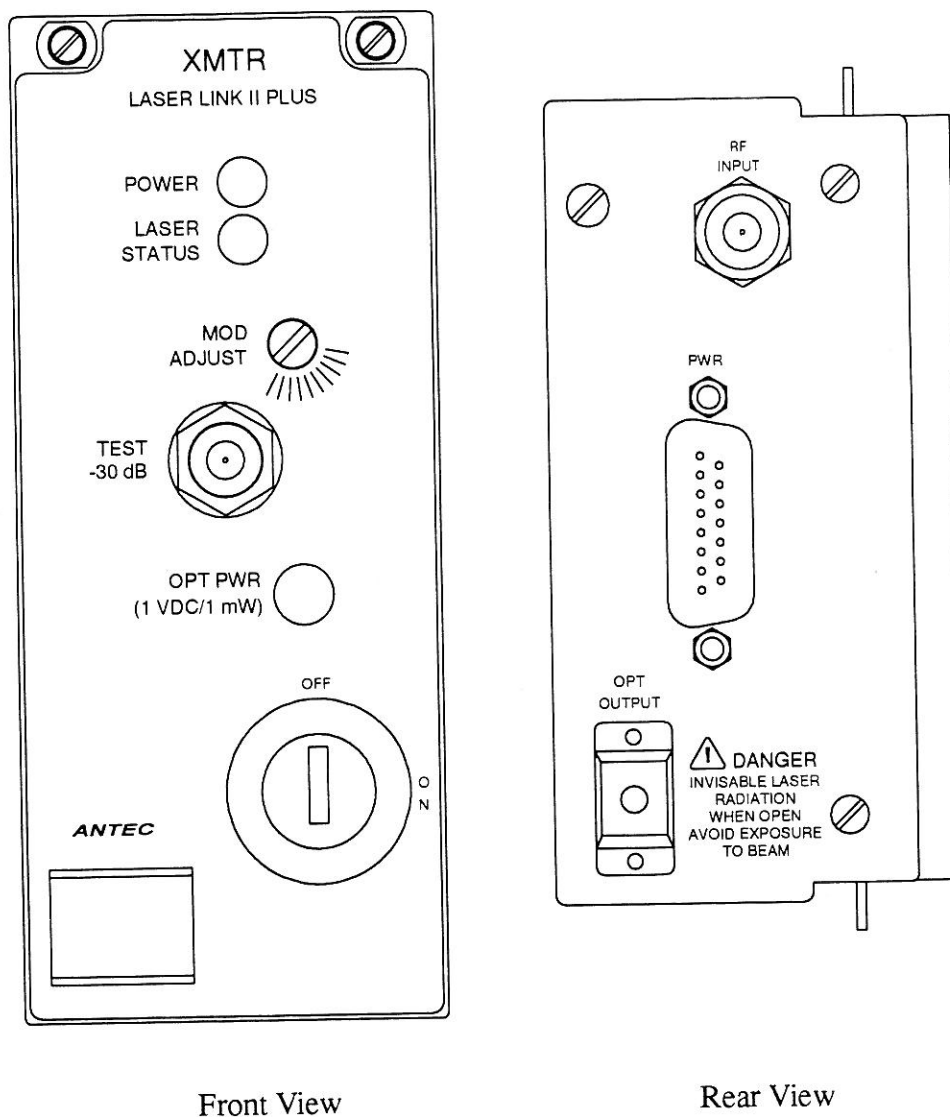

Figure 3-7. Transmitter Module (EAW1C) Front and Rear Views
The front and rear views of the EAW1C transmitter module are shown in Figure 3-7. The only visual difference between the EAW1C and EAW5 is that while the EAW1C is labeled LASER LINK II PLUS, the EAW5 is labeled LASER LINK II PLUS - HP. The HP indicates that it is the high power transmitter. The transmitters have POWER and LASER STATUS LEDs on the front panel, a radio frequency (RF) modulation adjustment potentiometer, and jacks to monitor the output optical power and the RF input signal. The input (RF INPUT), output (OPT OUTPUT), and power (PWR) connectors are in the rear of the modules. OPT OUTPUT interfaces with an SC-type connector.